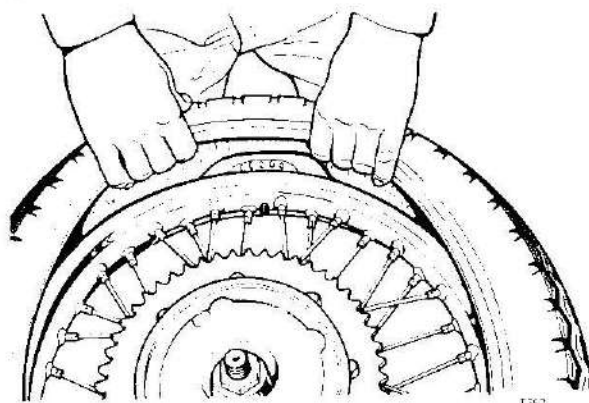

Fig. F21. Placing the security bolt in position
- (2) Fit the first bead to the rim without the inner tube inside.
- (3) Assemble the security bolt into the rim, putting the nut onto the first few threads (see Fig. F21).
- (4) Partly inflate the inner tube and fit it into the tyre.